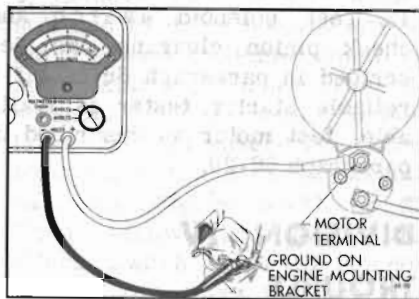

Figure 68-28—Cranking Voltage Test Connections
3. Connect voltmeter positive (+) lead to the motor terminal on solenoid switch; connect voltmeter negative (-) lead to ground. See Figure 68-28.